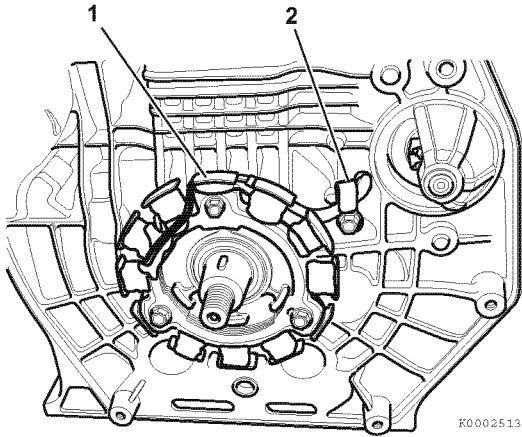

Figure 9-15
14. Remove the stator assembly and lead retainer (1, 2, **Figure 9-15**).